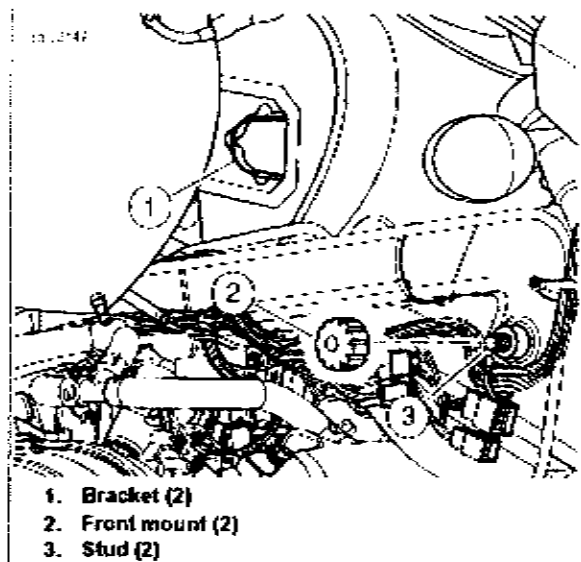

Figure 6-5. Front Mount
1. See Figure 6-5. Remove fuel tank.
- a. Slide fuel tank back and away from front mounts (2).
- a. Position ground wire (3) in backbone caddy (4) and along frame.
- b. Install ground wire over ground stud (1).
- c. Install nut (2). Tighten to 8.4 POWER DISCONNECT.
2. See Figure 6-5. Install fuel tank brackets (1) on front mounts (2).